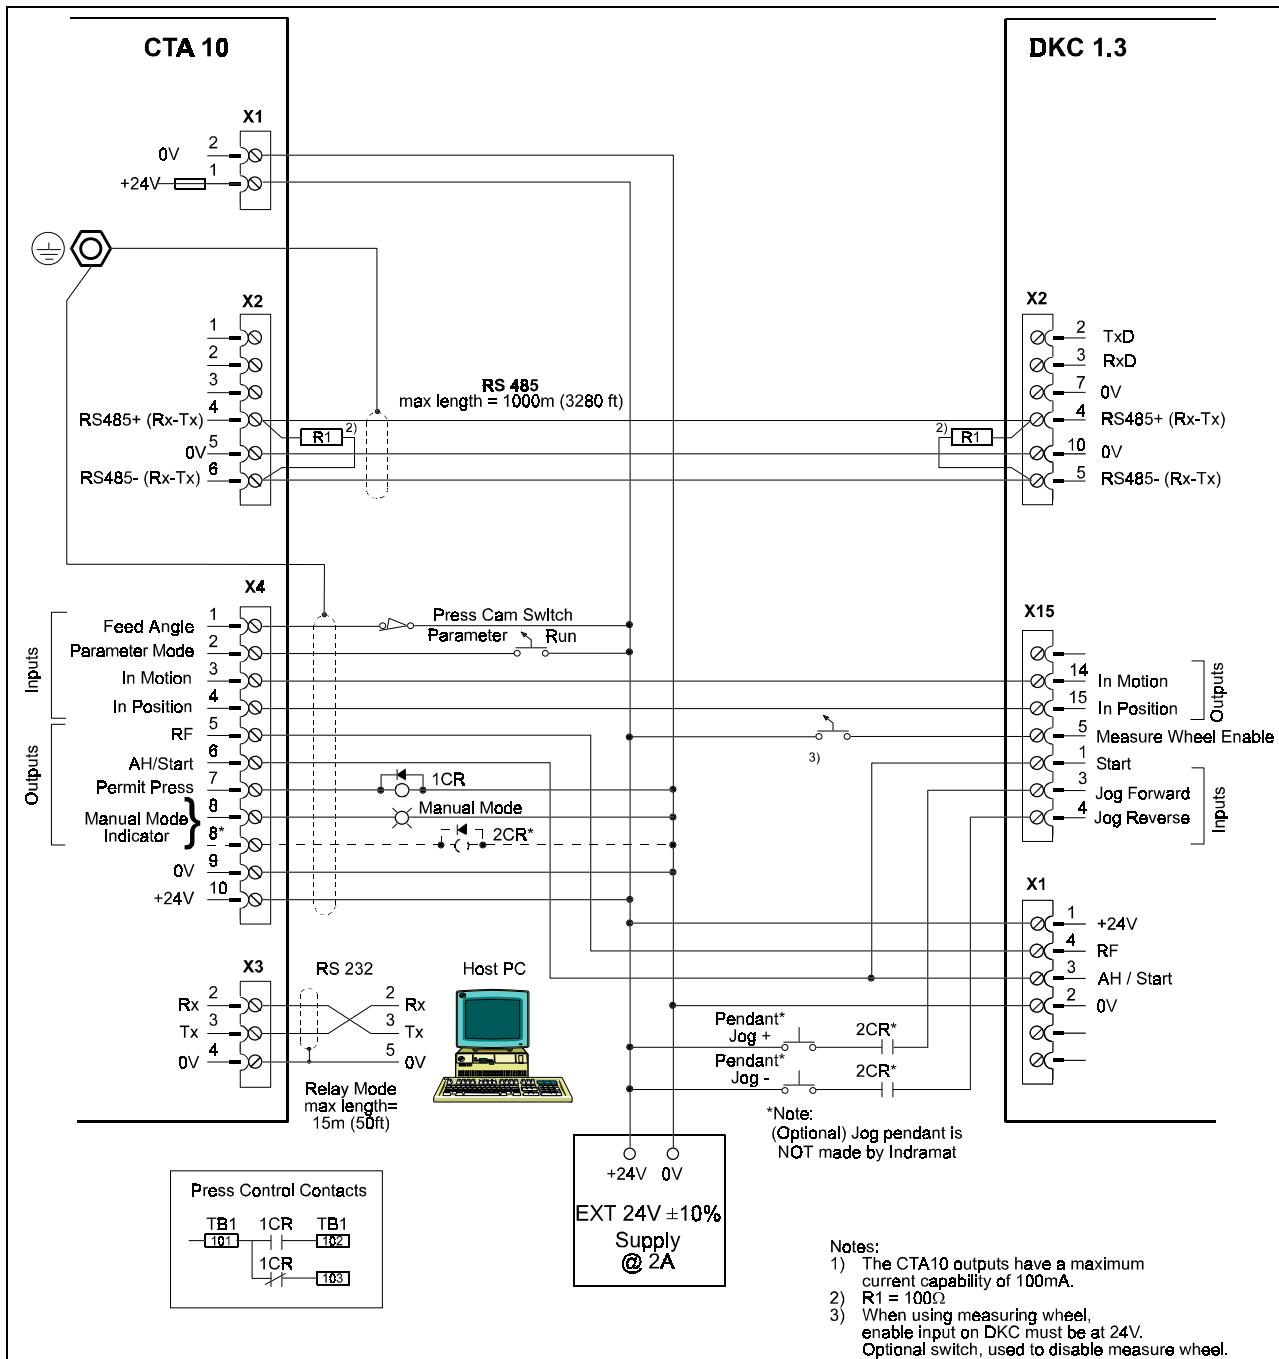

Figure 7-2: CTA10 - DKC1.3 Interconnect
**Note:** Upon each startup, the CTA10 remaps the I/O on the DKC 1.3, as shown in Figure 7-2: CTA10 - DKC1.3 Interconnect. Any unused I/O cannot be remapped.